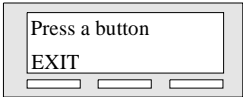

Figure 14. Example M7310 Display Buttons
An application uses the **d42_display()** function to retrieve the prompt data displayed for Display Button 00 shown in Figure 14. The data placed in the application buffer is shown below. Data in bytes 16 through 20 indicate that the prompt **EXIT** is displayed below Display Button 00.
- Exit the button query by using the **dial()** function and the appropriate dial string (<ESC>KP) to press Display Button 00 under the EXIT prompt - see Figure 14.